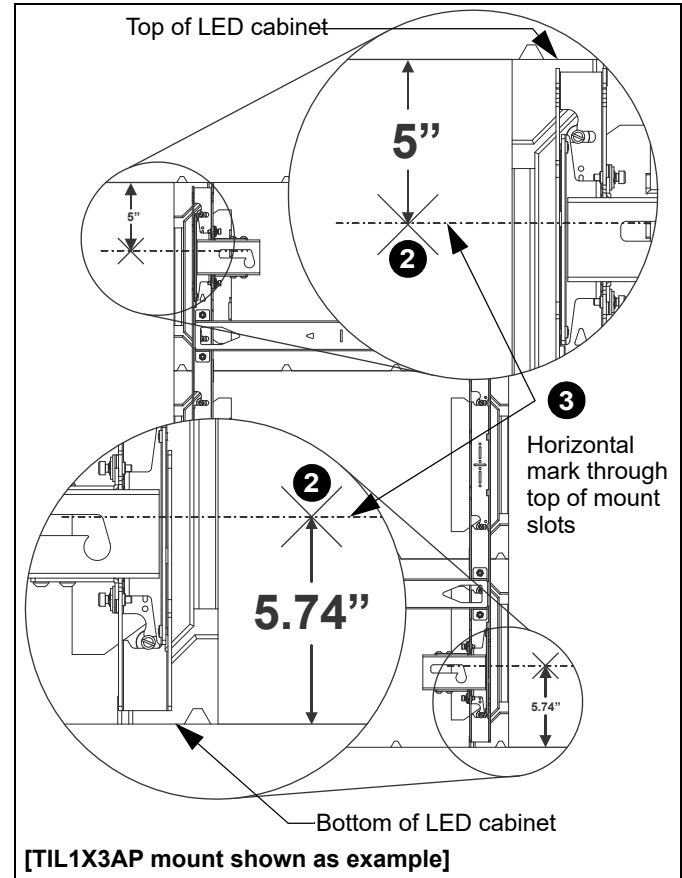

Figure 5
1. Determine top or bottom panel height location and horizontal placement of mounts. (See Figure 5)
2. Make a mark 5" **below** the planned top edge (or 5.74" **above** the planned lower edge of the LED wall. (See Figure 5)